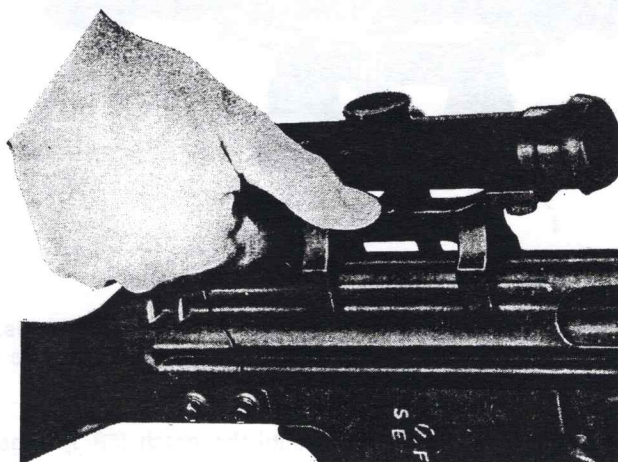

Fig. 61: Removal of the telescopic sight with mount
- Press catch downwards with the thumb (Fig. 61) and turn tension lever upwards again.